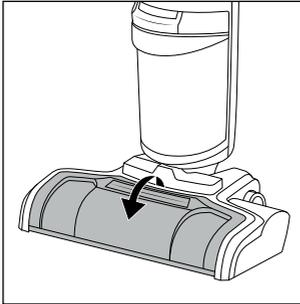

Fig. 33
- ◆ Take hold of the top of the splash guard **7** by the edge of the handle (*PULL*) and pull it forward to remove it from the foot section **3** (see fig. 33).